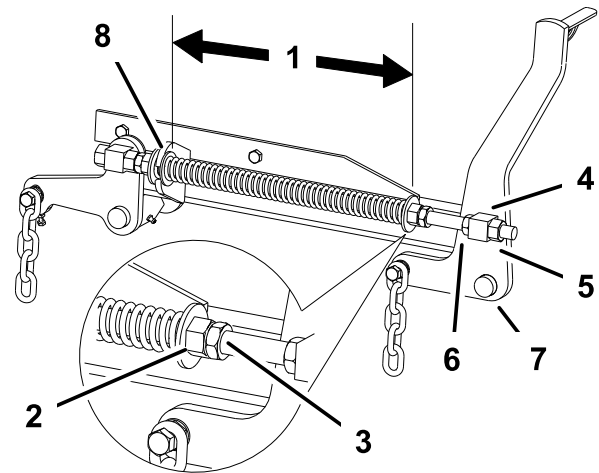

Figure 78
2. Check the distance between the two large washers, it needs to be 11-1/2 inches (29.2 cm) (Figure 78).
3. Adjust this distance, by loosening the spring jam nut and turning the nut in front of each spring (Figure 78). Turning the nut clockwise will shorten the spring; counter-clockwise will lengthen the spring.
4. Lock the nut into position by tightening the spring jam nut (Figure 78).